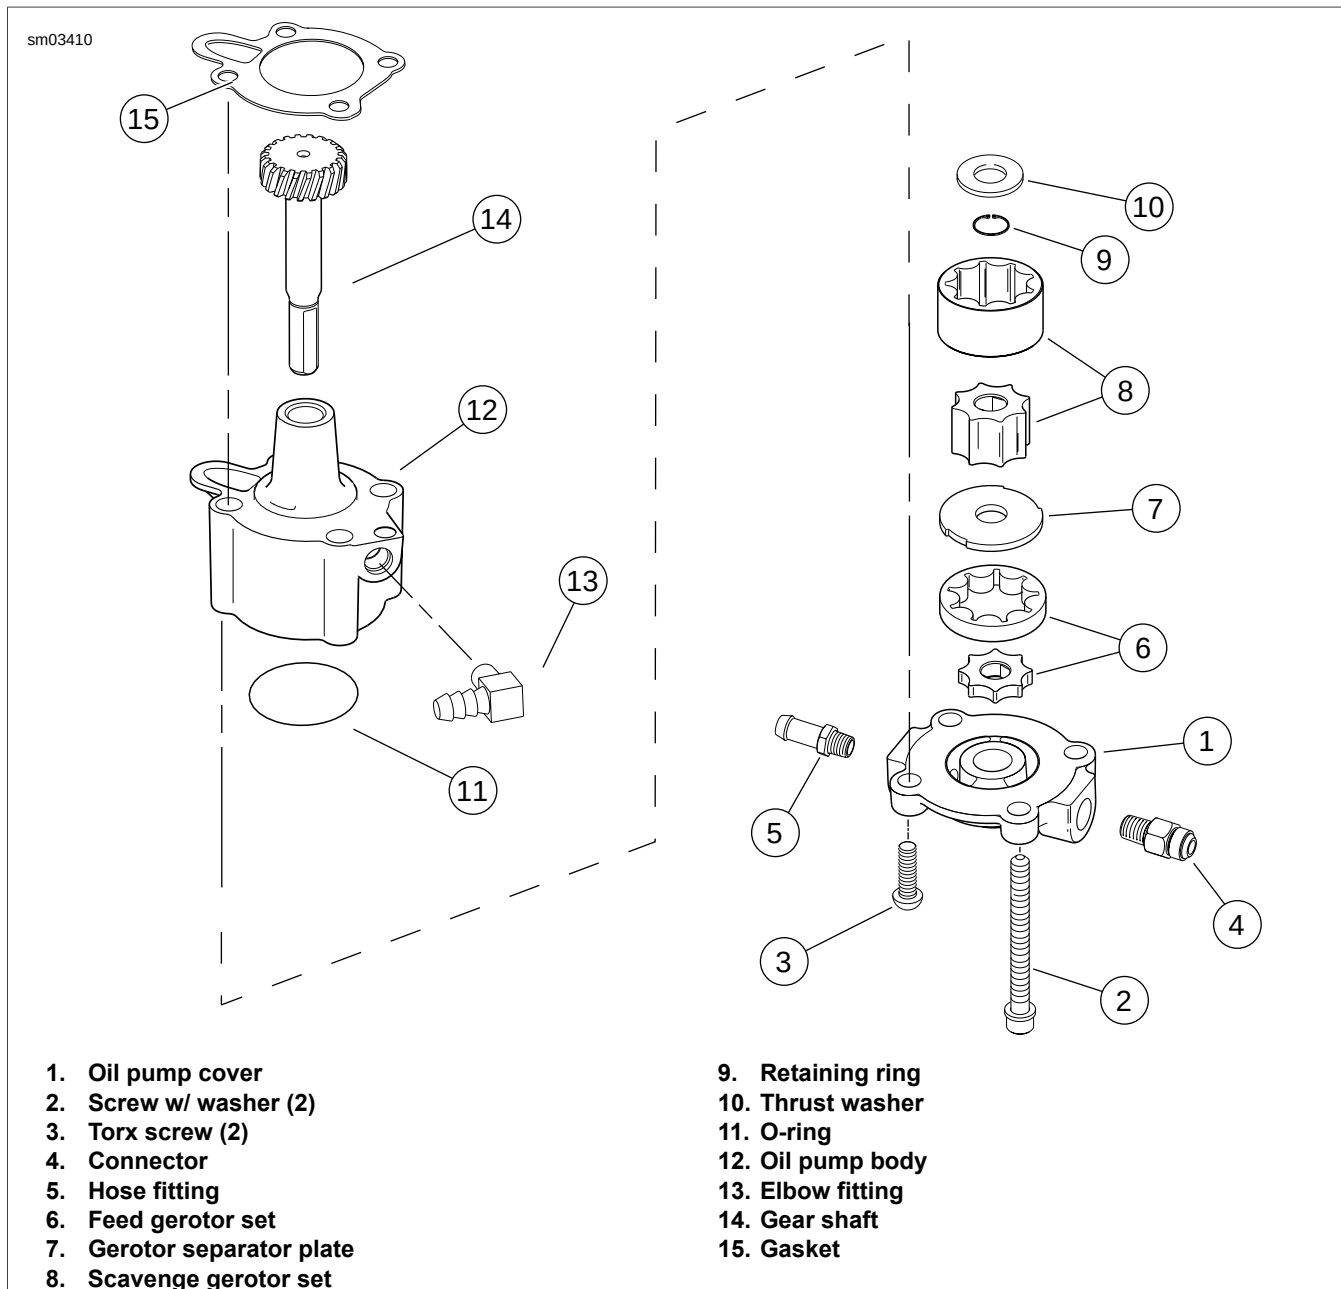

Figure 3-134. Oil Pump: XL Models
See Figure 3-134. The oil pump is designed to be removed as a complete assembly by removing the two long screws (2) at opposite corners of the pump. The other two screws (3) hold the pump together so that it may be removed and installed as a unit.
3. See Figure 3-134. Carefully remove two screws (2) that secure oil pump to crankcase. Pump will drop with screws removed. Discard mounting gasket (15).
1. See Figure 3-134. Remove two Torx screws (3). Lift cover (1) off body (12). Remove and discard O-ring (11).
2. Slide both pieces of feed gerotor set (6), separator plate (7) and both pieces of scavenge gerotor set (8) off gear shaft (14).
3. Remove and discard retaining ring (9). Remove thrust washer (10) and gear shaft.
1. See Figure 3-134. Install gear shaft (14) through oil pump body (12). Position thrust washer (10) over end of shaft. Install **new** retaining ring (9) into groove in shaft.
2. Insert inner gerotor of the scavenge gerotor set (8) over gear shaft.
4. Position separator plate (7) into case and line up slots on perimeter with tabs inside oil pump body.
5. Place feed gerotor set (6) over gear shaft.
6. Install a **new** O-ring (11) into groove in oil pump cover (1). Place cover onto pump body. Install two Torx cover screws (3). Tighten to 70-80 in-lbs (7.9-9.0 Nm).
1. See Figure 3-134. Place **new** mounting gasket (15) in position.
2. Secure pump to crankcase with two screws (2). Tighten to 125-150 **in-lbs** (14.1-16.9 Nm).